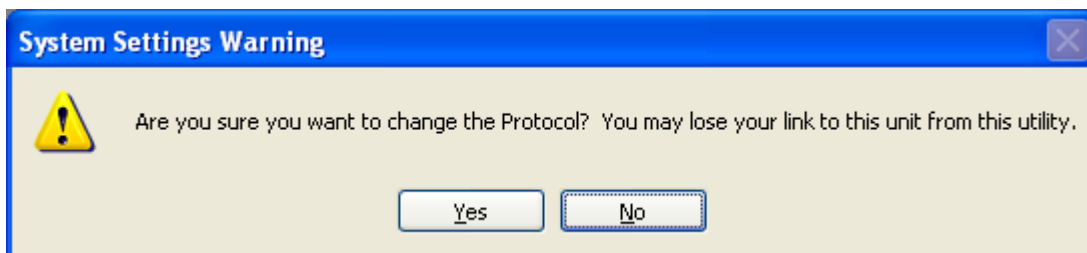

Figure 11-4: Verification to Change Protocol
4. Select “Terminal’ in selection box. A dialog window will appear prompting you to accept the change in protocol See Figure 11-4.